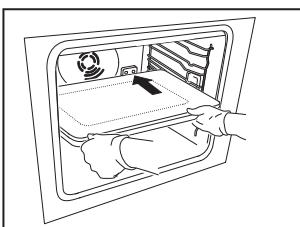

Fig. 2
2. Use both hands to push the induction plate upto the electrical plug (Fig. 2).